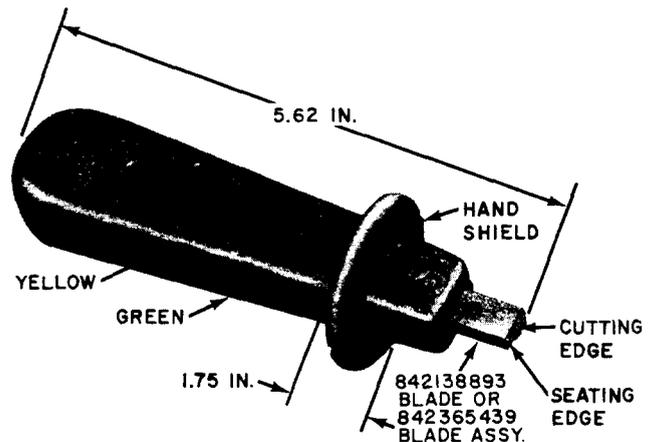

Fig. 1—714B Wire Inserter Tool
2.01 **714B:** The 714B wire inserter tool (Fig. 1) is used for making cross-connections on 66-type connecting blocks.